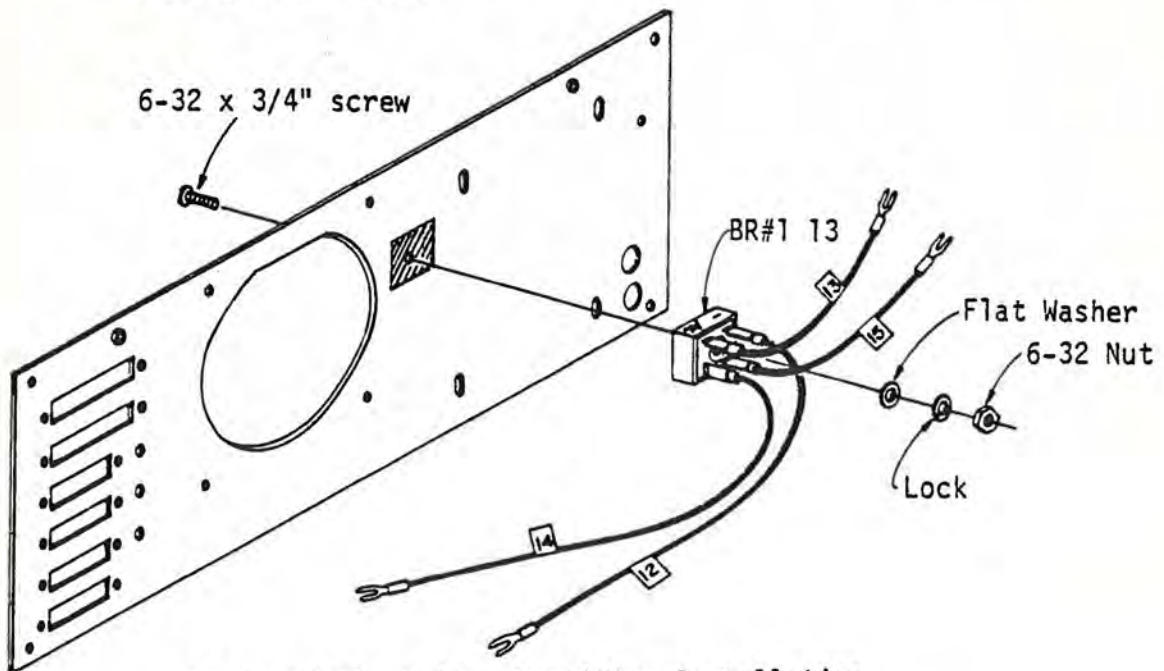

Figure 5-53 Bridge Rectifier Installation
- d. Insert the connector socket on the end of the white AC power cord wire into slot 10 of the socket housing. Figure 5-53 describes the "mating" process of a pin housing and socket housing.